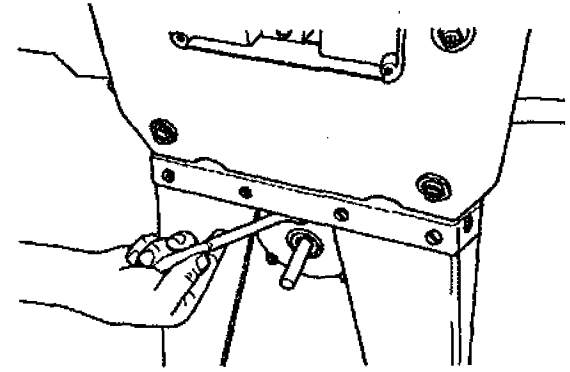

Fig. 27
34. Use a 3/8" ratchet wrench to securely tighten both hex head bolts, as seen in Fig. 27.